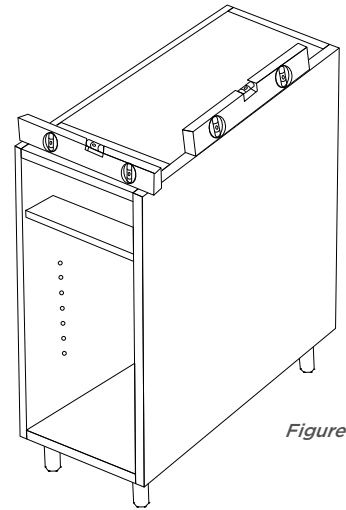

Figure 5
- Adjust the height of the cabinet's legs to get a total cabinet height of approximately 34 1/2". Use a level to ensure the cabinet is level from front to back and side to side (Figure 5). Make necessary leg adjustments until the cabinet is level in both directions.